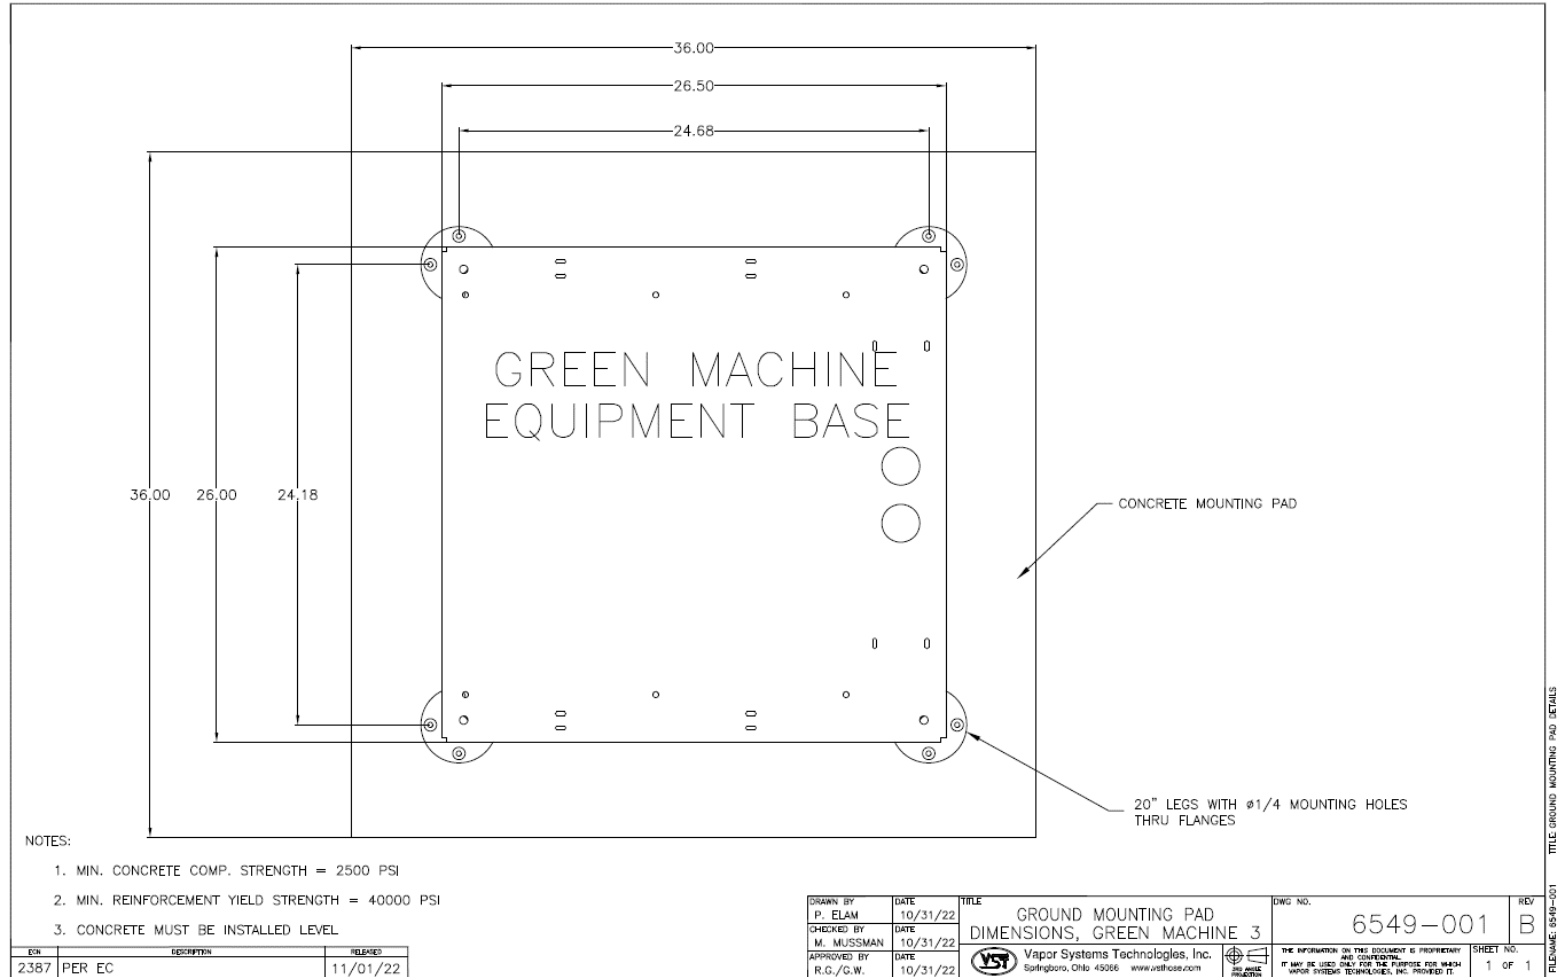

Figure 1-1: Concrete mounting pad dimensions
- **See Figures 1-1 and 1-2**
- After the concrete has properly cured, install the expansion anchor bolts according to the manufacturer's recommendations. **See Figures 1-1 and 1-2.**